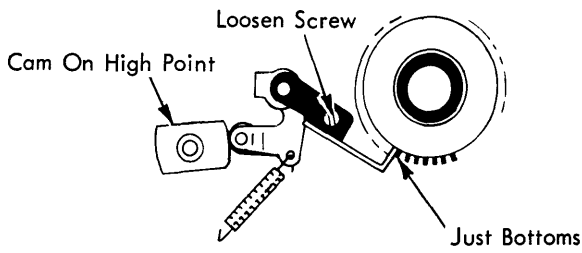

FIGURE 25a. Shift Interlock
- a. 723 and 725 - With the shift interlock on the high point of the cam, adjust the interlock by its adjusting screw so that the tip just bottoms between two teeth on the shift clutch ratchet (Fig. 25a).